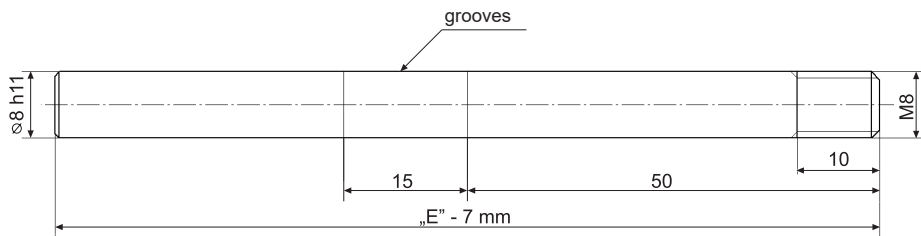
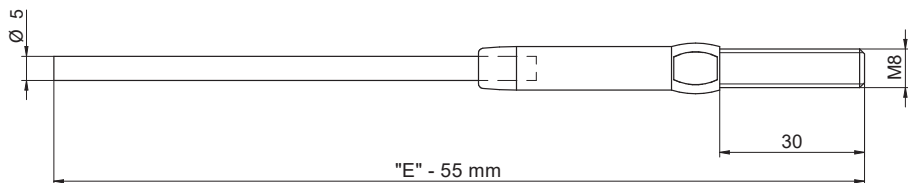

Fig. 25: Detail of a drawing of a rod electrode
Fig. 26: Detail of a drawing of a rope electrode
1. Create your own electrode (rod - variant 10, rope - variants 30, 33, 34, 35, 36, 37) as shown on Fig. 25 or 26. The length of the rod electrode must be about 7 mm shorter than the dimension "E" in figure 25. The length of the rope electrode must be about 55 mm shorter than the dimension "E" in figure 26. The rope electrode and the connection of the threaded end to the rope must have sufficient tensile strength (recommended at least 10 kN). The material of the electrode is recommended to be used stainless steel type 1.4404 (AISI 316 L) or similar depending on the application.
2. Shorten the rod electrode by means of a suitable metal saw and file the end of the electrode. The length of this electrode must be 7 mm shorter than dimension "E" in fig. 25.